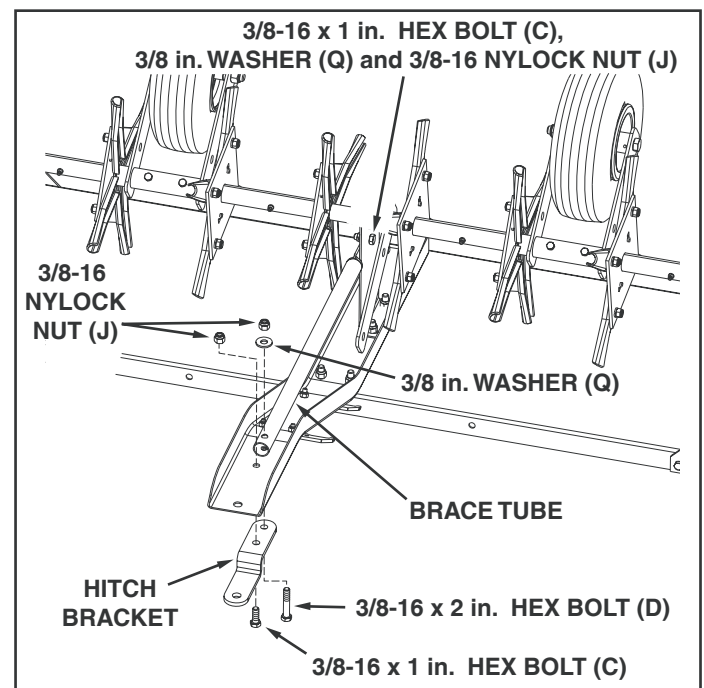

FIGURE 11
17. Align the hitch bracket with the mounting holes in the tongue and tube brace, and loosely fasten with one 3/8-16 x 2 in. hex bolt, 3/8 in. flat washer and 3/8-16 nylock hex nut. See figure 11.
18. Install one 3/8-16 x 1 in. hex bolt and one 3/8-16 nylock hex nut into the front hole of the hitch bracket to fasten the hitch bracket to the tongue. See figure 11.
19. Tighten both tube brace hex bolts and the front hitch bracket bolt. See figure 11.